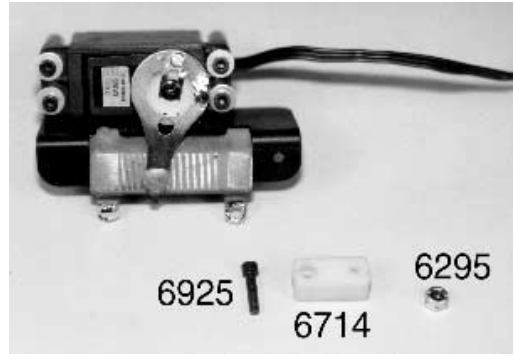
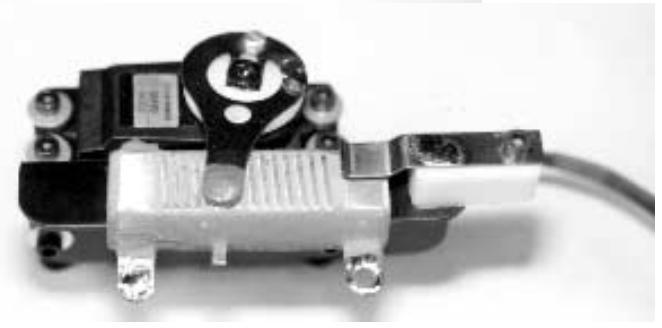

Fig. 169
Fig. 171
□ **Figs. 169, 170 & 171** (1) Take out the #6714 yellow nylon throttle bypass mount, one #6925 4-40 x 1/2" socket head cap screw, and one #6295 4-40 steel locknut. (2) If you look at the #6714 mount you will see there are two holes. On one side of the mount one hole is recessed. Install the #6925 screw into the recessed hole (the head of the screw will be below the surface) and then through the hole on top of the right resistor bracket. (3) Thread the #6295 locknut onto the #6925 screw to secure the bypass mount to the bracket. (4) In the same parts bag you will find the #6714 brass throttle bypass tab and one #6924 4-40 x 3/8" socket head cap screw. (5) Place the bypass tab on top of the mount with the bent end down so that it is closer to the #6711 throttle resistor. (6) Use the #6924 screw to fasten the tab to the mount. To make sure everything is correct rotate the wiper arm so that it goes under the bypass tab. The wiper arm is suppose to fit snugly between the resistor and bypass tab. If not you can either adjust the position of the resistor by raising the mounting brackets or you can bend the end of the bypass tab down so that it makes more contact with the wiper arm. Fig. 171 shows your throttle servo assembled.